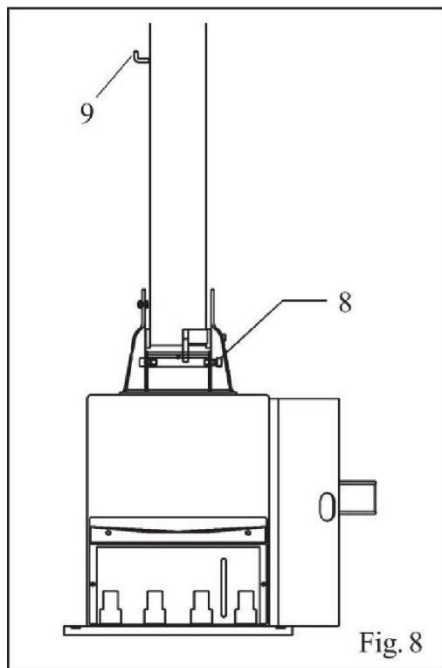

Fig. 8
- Tighten the nut (7). Enable the cylinder to operate correctly so the tilting arm without frictions, pay attention not to tighten it too much.
- Tighten the screw (8) as shown in Fig. 8.
- Fix the inflating gauge hook (9) on the vertical arm.